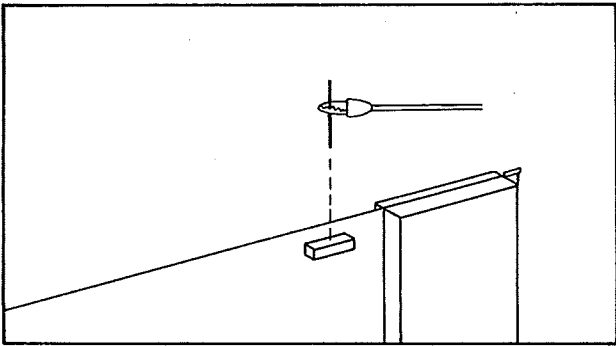

Figure 5-6. A5J1 Check.
4. Adjust A11R17 (see Figure 5-6 for location) until the reading on the DVM is between 5.040V and 5.065V when 100 volt power line voltage is used. Use an insulated screwdriver.
WHEN A5J1 PIN 1 AND A5J1 PIN10 ARE CHECKED, THE 11003A TEST LEAD (PROBE AND ALLIGATOR CLIP TO DUAL BANANA) SHOULD BE USED FOR THE CHECK. IF THE TEST LEAD IS NOT AVAILABLE, USE THE 11002A TEST LEAD WITH A SHORT WIRE AS SHOWN IN FIGURE 5-6, BUT BE CAREFUL. DC VOLTAGE EXCEEDING 100V IS PRESENT AT THE CHECK POINT.